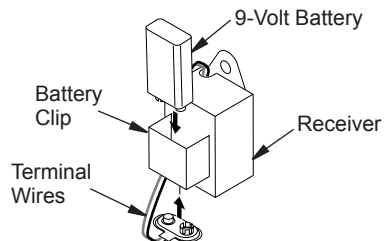

Figure 15 - Installing Battery in Receiver
5. Locate battery clip mounted on back of receiver (see Figure 15).
7. Attach terminal wires to battery (see Figure 15).